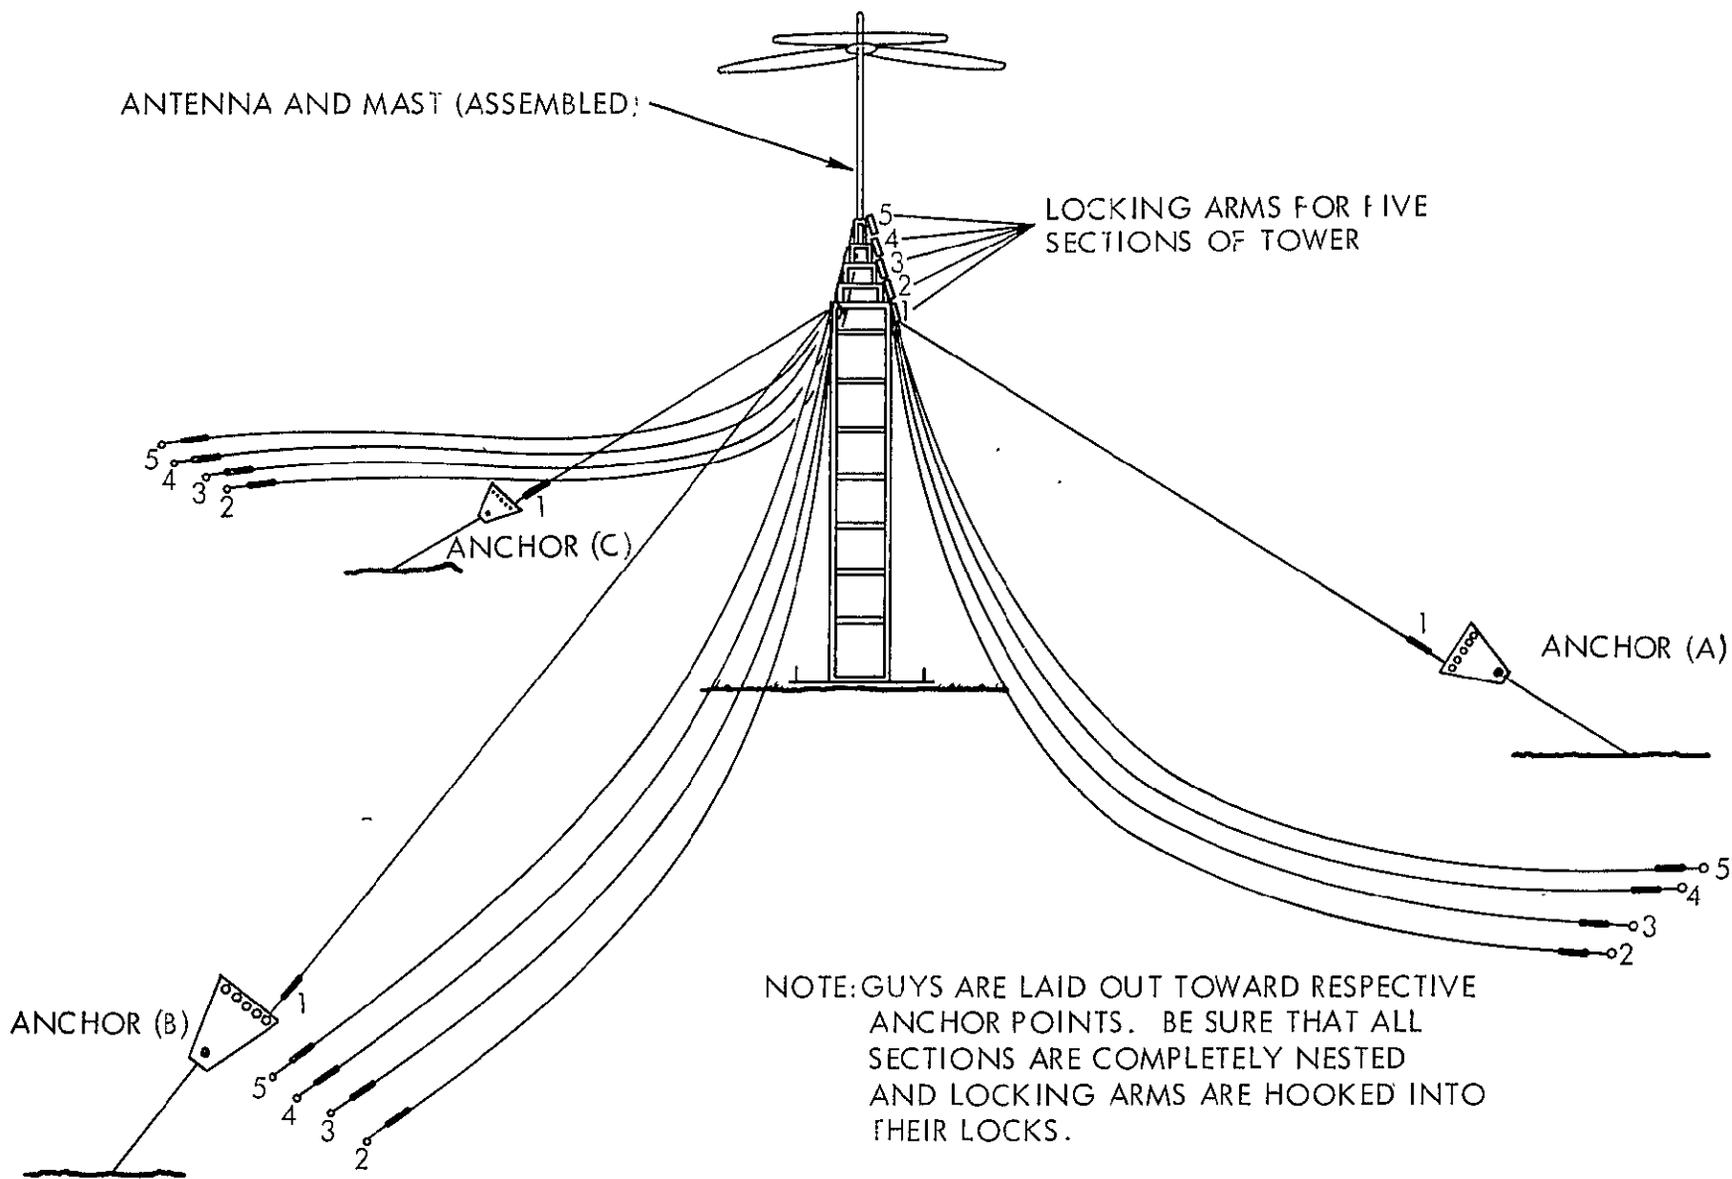

Fig. 3. Arrangement and sequence of wires in guy-as-you-erect procedure
- 5) Unwind the 15 guy wire loops attached to the top of each tower section (Fig. 3) and place them near the corresponding anchors A, B, and C.
- 3) Use 50 ft of rope at the lowest section of tower (the rope corresponds to and temporarily supports the third guy wire assembly Anchor A Fig. 3).
- 6) Turn the winch handle clockwise so that all sections in the first nest (Fig. 3) will raise together.